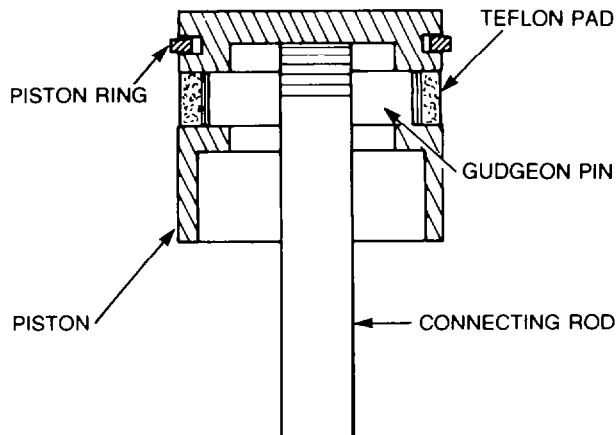

Figure 8 — Connecting Rod — Installation
- c. Press in the connecting rod bushes, then using the oil supply hole in the connecting rods as a guide, **drill a 3 mm hole** through the wall of the bushes. Clean the connecting rods, then install the connecting rods, gudgeon pins and Teflon pads in the pistons (see Fig. 8).